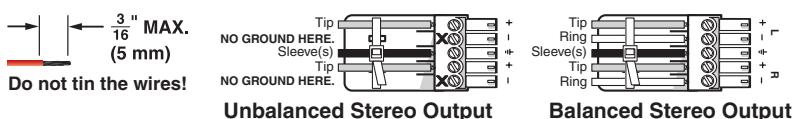

Figure 2-6 — Audio output connections
- ② **Video output 1** — Connect an output monitor or other VGA device to this female 15-pin HD connector.
- ③ **Audio output 1** — Connect speakers to this 3.5 mm stereo jack.
- ④ **Video output 2** — Connect a projector or other RGBHV video output device to these five BNC connectors.
- ⑤ **Audio output 2** — Connect speakers to this 5-pole 3.5 mm captive screw connector. Wire the captive screw connector for stereo output as shown in figure 2-6. Use the supplied tie-wrap to strap the audio cable to the extended tail of the connector.